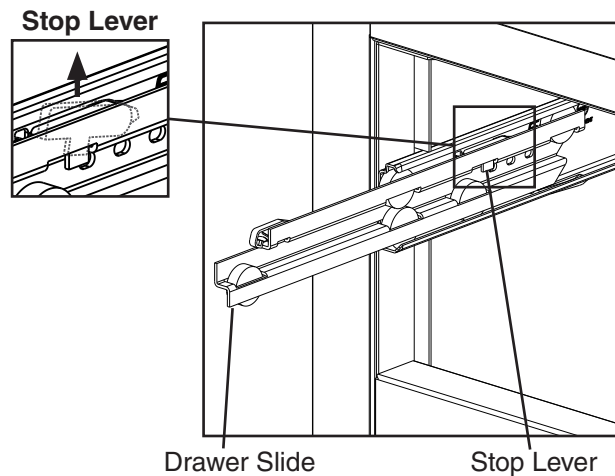

Fig. 44
- **To remove a drawer slide (center slide containing rollers):** Push up on the stop lever while pulling on the drawer slide. See Fig. 44. Drawer slides do not require lubrication, but drawer slides should be kept clean and free of food.